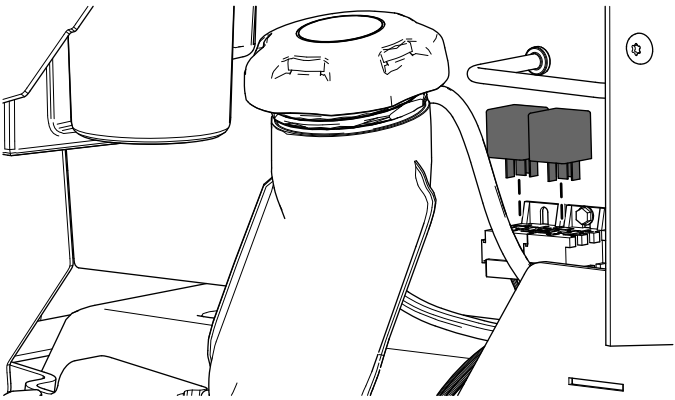

Figure 16
- Install the 2 relays (Figure 16).